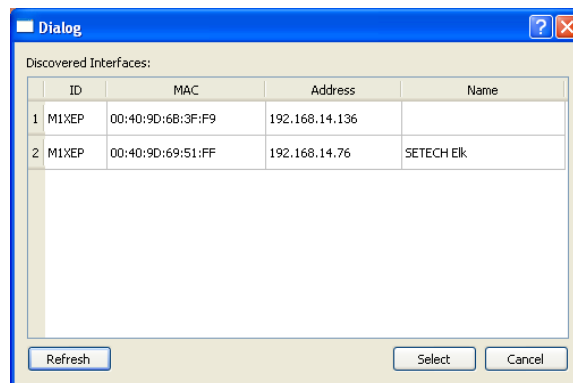

Figure 8 - SETECH Updater Discovery Window
2. Activate the **Discover...** button. The updater queries the local network for any SETECH ST-EG100-E and Elk M1XEP Ethernet boards, and returns a list of all discovered Ethernet boards (see Figure 8).